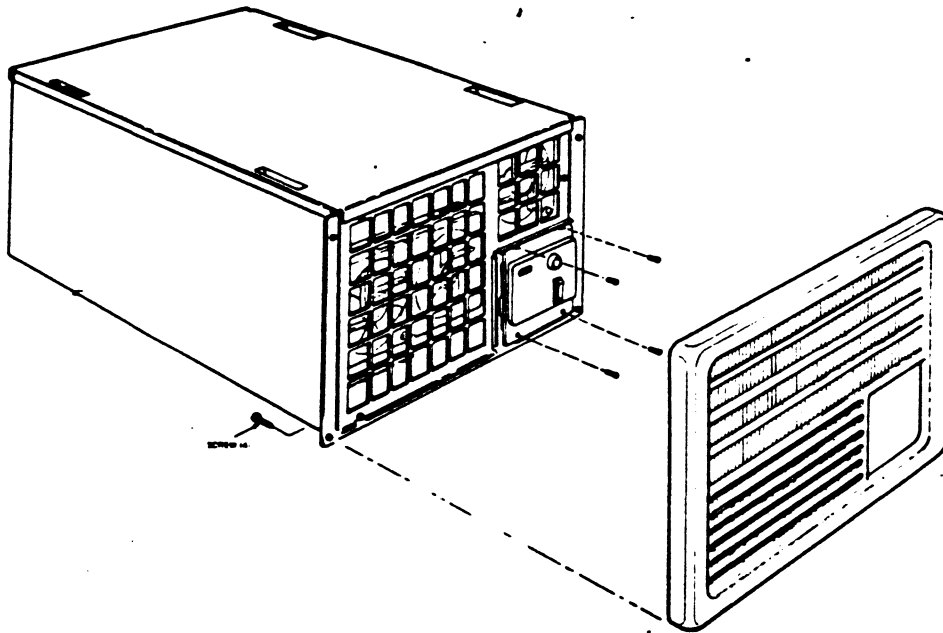

FIGURE 5-22 FRONT PANEL REMOVAL
3. Remove the front bezel by loosening and removing the four screws from the bezel rear side. Pull the bezel away from the box (see Figure 5-22).